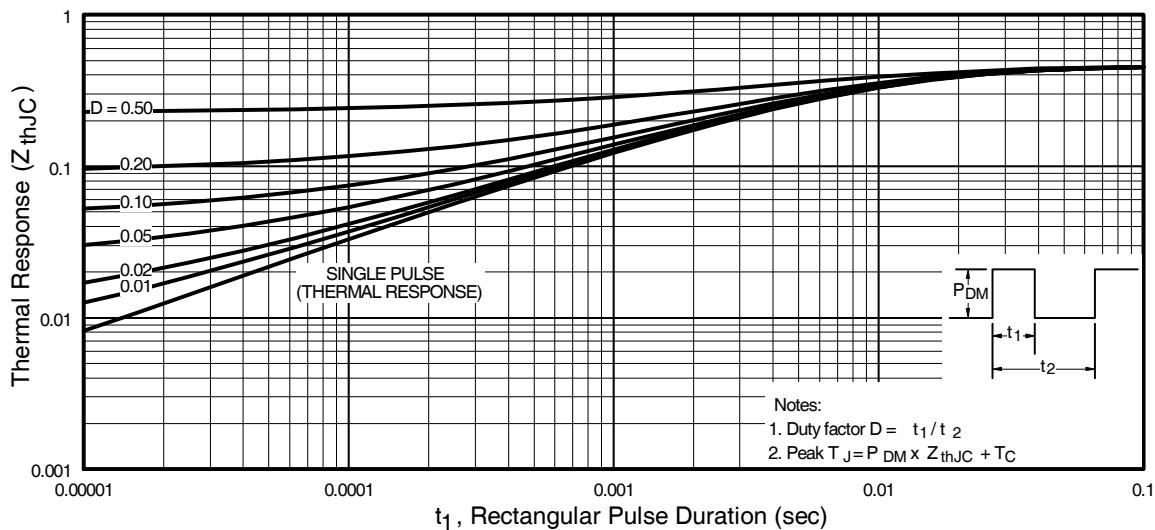

Fig 11. Maximum Effective Transient Thermal Impedance, Junction-to-Case
- $Z_{\text{thJC}}(D, t_{\text{av}})$ = Transient thermal resistance, see figure 11
- ① Repetitive rating; pulse width limited by max. junction temperature. (See fig. 11).
- ② Starting $T_J = 25^\circ\text{C}$, $L = 0.11\text{mH}$